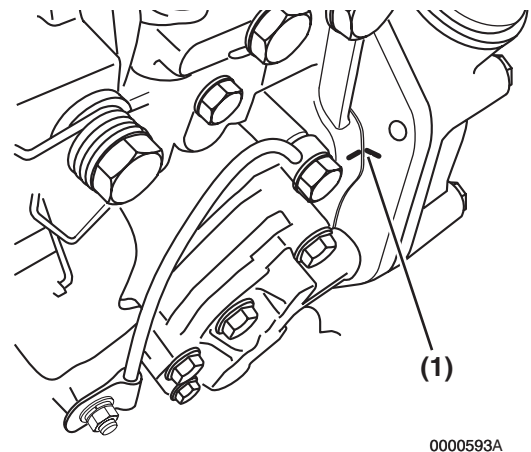

Figure 7-15
22. Locate the mark stamped into the upper outside mounting boss of the fuel injection pump. Highlight this mark and make a corresponding mark on the gear case or front plate **(Figure 7-15, (1))**.